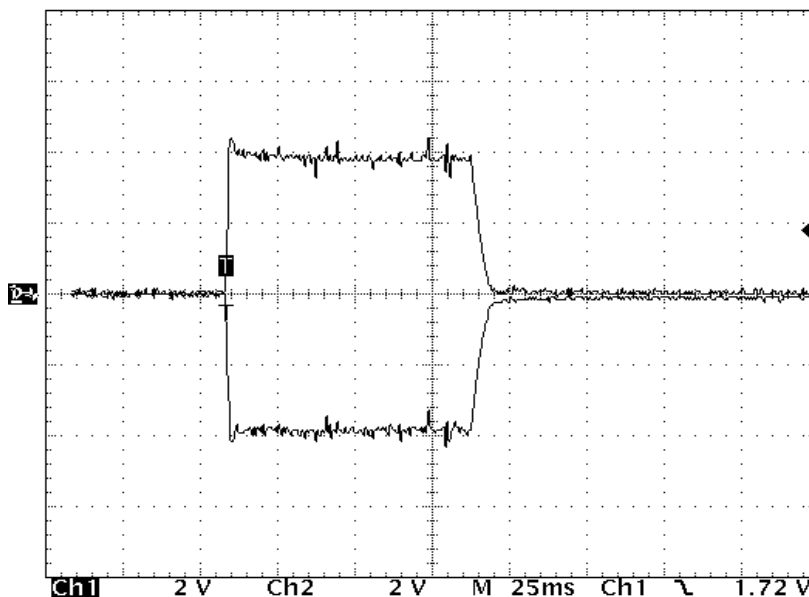

Figure 1: Proper kV Balance Anode to Cathode
Step 2: Make an exposure. Based on a voltage interpretation of 1V=10KV, the anode and cathode waveforms should be equal in amplitude. See Figure 1, “Proper kV Balance Anode to Cathode”.